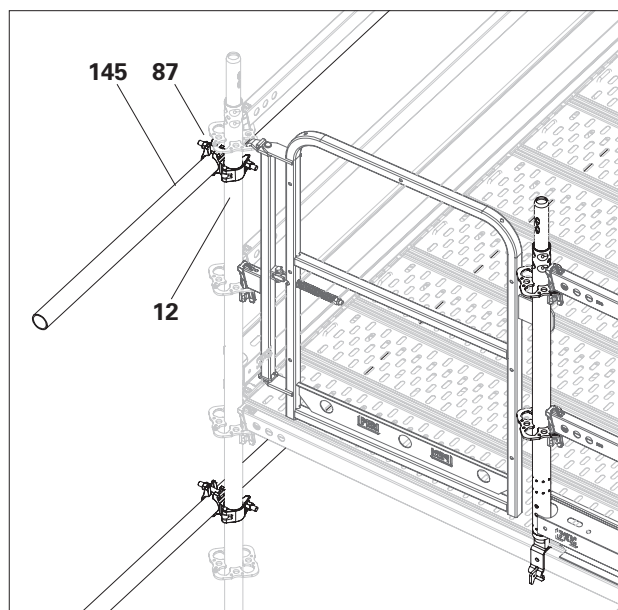
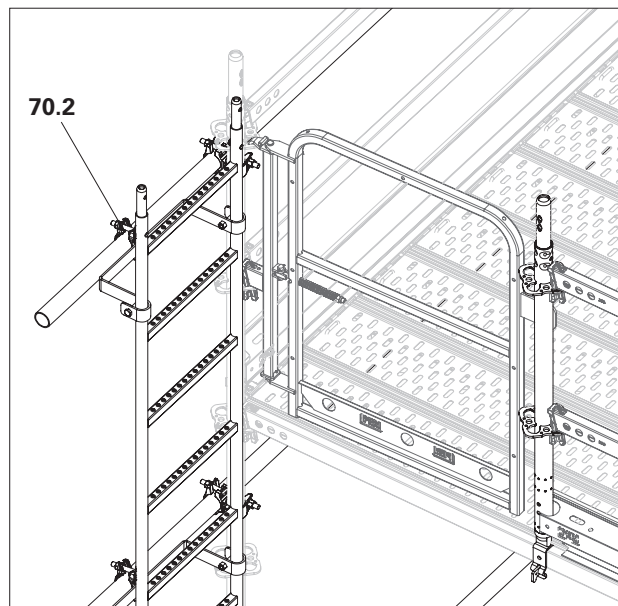

Fig. A9.08b
Fig. A9.08c
4. Screw the scaffolding tube (**145**) to at least 2 standards (**12**) with standard couplers (**87**). (Fig. A9.08c) Distance between standards must be equal to the cantilever at least. (Fig. A9.08b)
5. Screw the ladder connector to the projecting scaffolding tube with the tube coupling (**70.2**). (Fig. A9.08b)